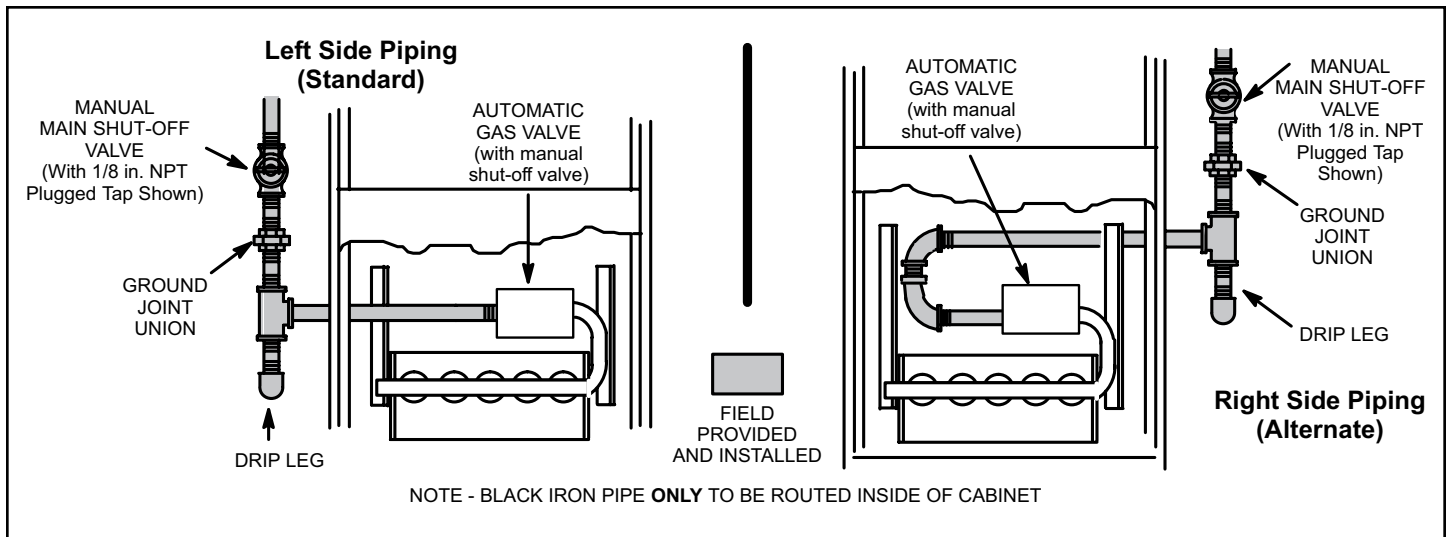

Figure 53.
1. Gas piping may be routed into the unit through either the left or right hand side. Supply piping enters into the gas valve from the side of the valve as shown in Figure 53.
3. Gas piping must not run in or through air ducts, clothes chutes, chimneys or gas vents, dumb waiters or elevator shafts. Center gas line through piping hole. Gas line should not touch side of unit. See Figure 53.